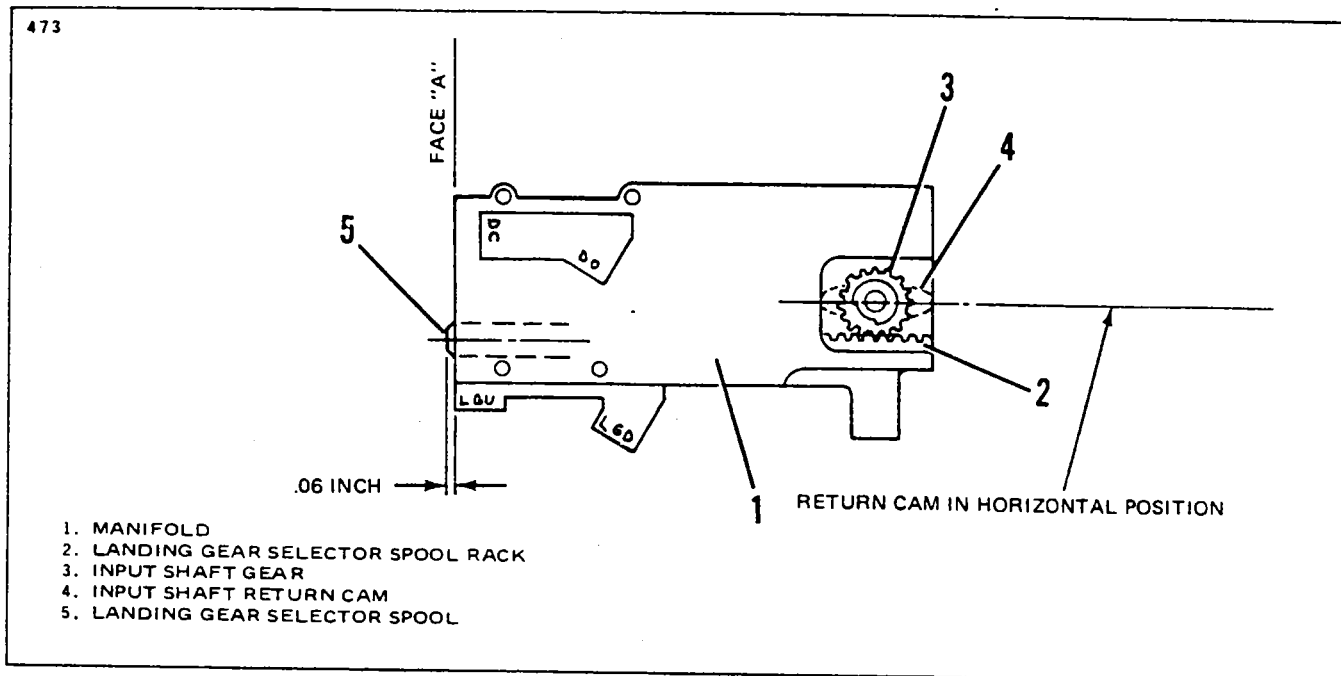

Figure 6-22. Indexing of Selector Spool (Wiebel Tool)
When mating the manifold with the Power Pack body, index the landing gear selector spool rack with the input shaft gear as shown in Figure 6-22. With landing gear selector spool (5) protruding .06 inches from face "A" of manifold (1) and the input shaft return cam (4) in the horizontal position, tooth of input shaft gear (3) will match with toothspace in the landing gear selector spool rack (2).
- d. Install the four manifold attaching bolts and torque to 35 inch-pounds. Do not over torque bolts as this will cause binding of the landing gear selector spool (17).
- e. Lubricate "O" ring (22) and "O" ring (24) and install on plunger (23).
- f. Install plunger (23) and lubricated spring (25) into manifold (35).
- g. Lubricate threads of retainer (26), install into manifold (35). Torque to 25 inch-pounds and safety wire retainer (26) to manifold (35) using wire (47).